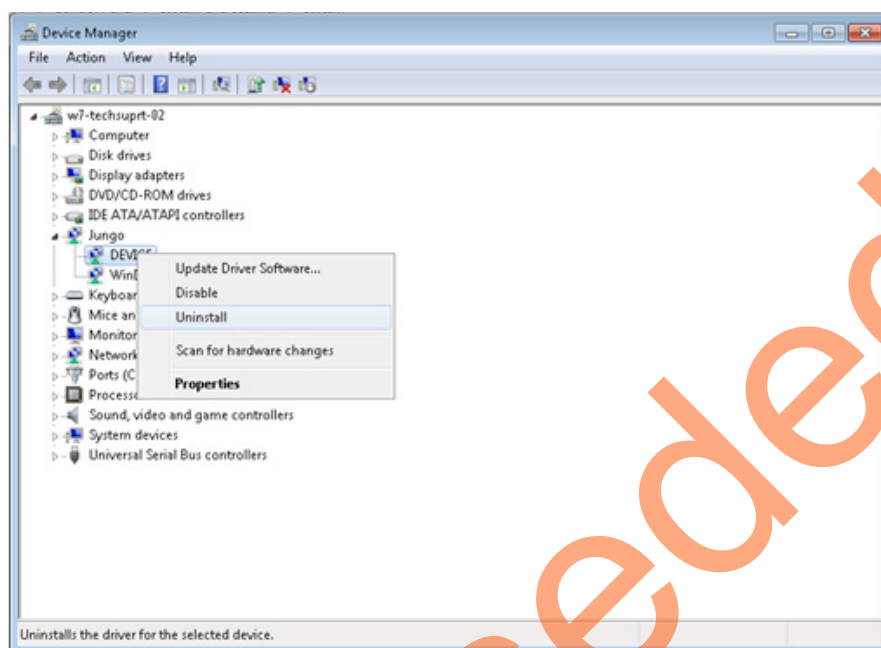

Figure 12 • Device Uninstall
- a. Navigate to device manager and right-click **DEVICE** and select **Uninstall** as shown in Figure 12. The **Confirm Device Uninstall** dialog box is displayed.